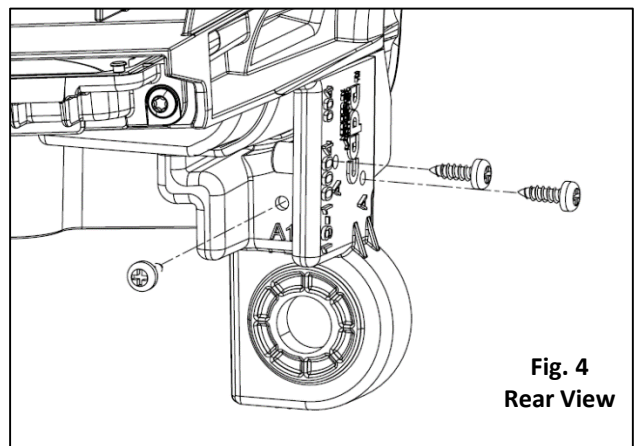

Fig. 4
4. Install: Install the prepared tab(s) ensuring a flush fit to the housing, **Fig. 4**. Next, drive the 5/8" screw at location **(A1)**. Finish by driving the two 5/8" screws at the locations marked **(A)**. Do not overtighten the screws. Allow the glue to cure for approximately 30 minutes before installing the repaired headlight on the vehicle.